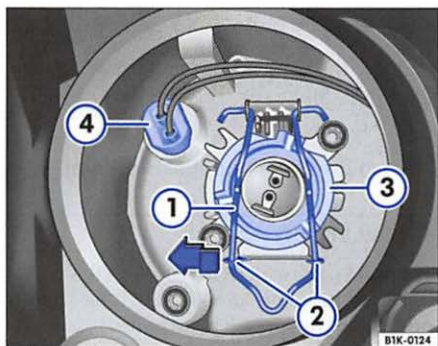

Fig. 37 In the headlight: high beam bulb (3) and position light bulb (4)
- Pull the cover (B) off in direction of the arrow.
- Remove the bulb holder ⇒ page 95, fig. 37 ④ from the headlight.